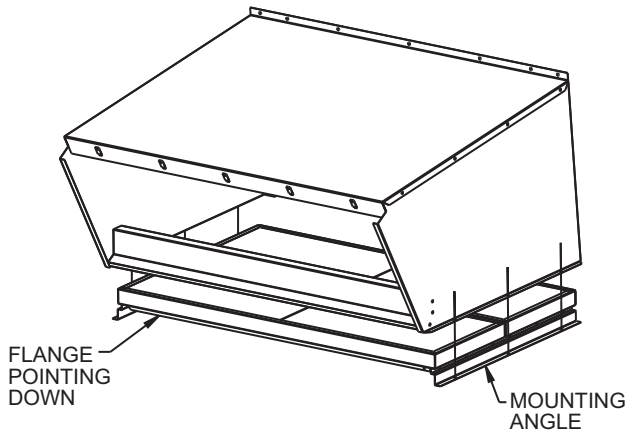

Fig. 31 — Bottom Filters Installed with Flange Pointing Down
12. Attach filter track under the hood assembly. See Fig. 31.